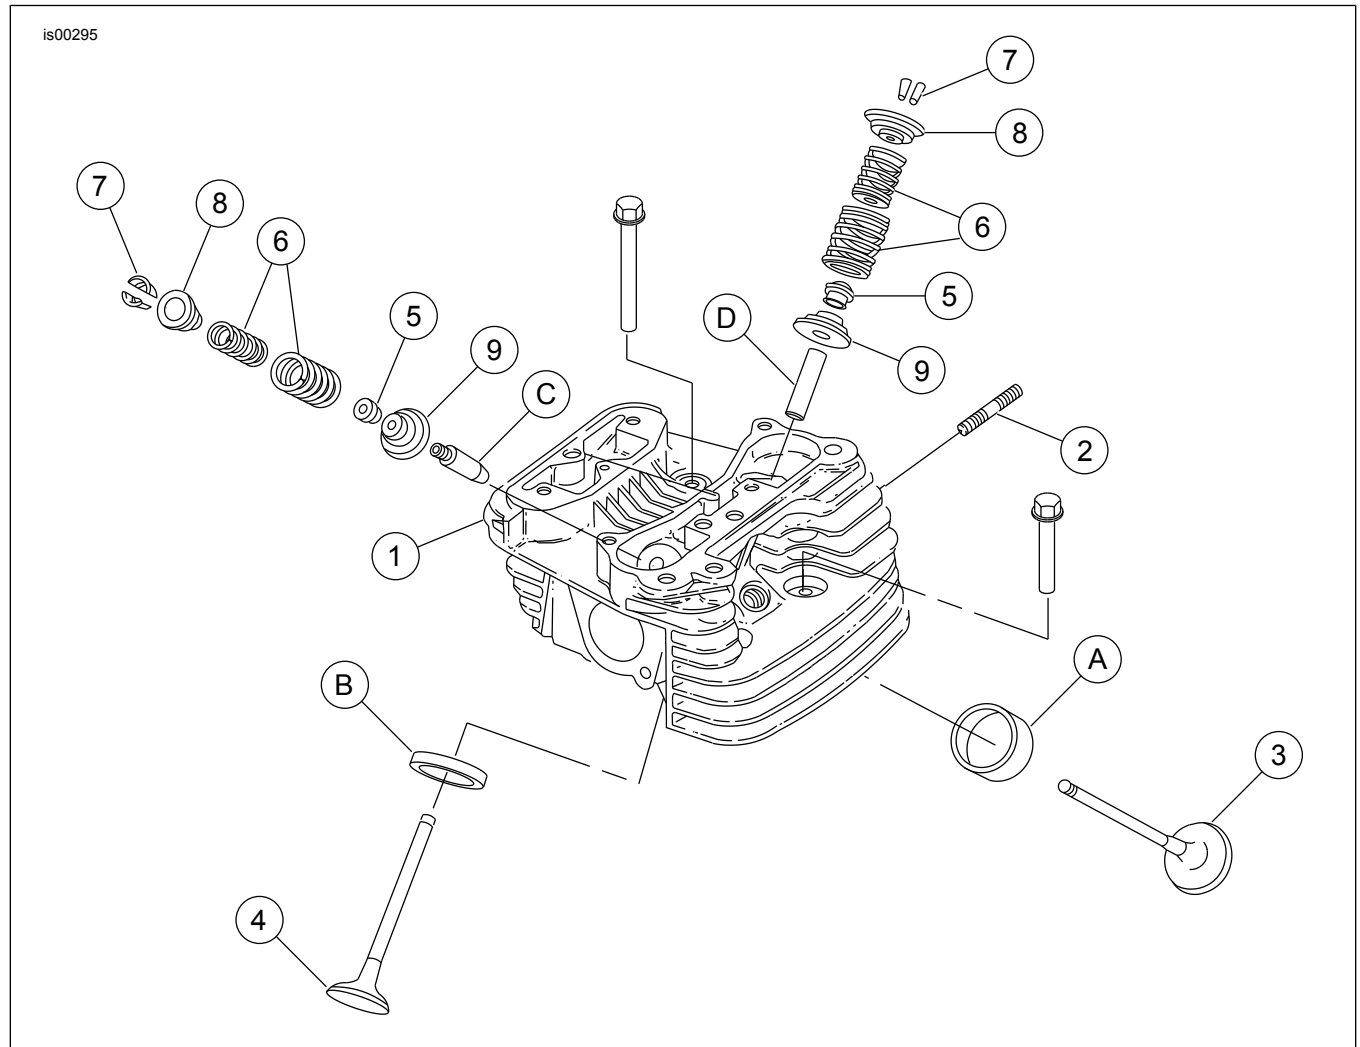

Figure 2. Service Parts: Screamin' Eagle 1340 Cylinder Heads
See Figure 2 and Table 6.
- See Figure 2. Using shims required for desired seat pressure (see notes above), install lower valve spring collars, upper collars, and collar keys. Check installed spring height. Add shims or remove material from spring seat to reach installed spring height. Remove upper collar keys and upper collars and assemble cylinder heads following applicable Service Manual procedures.
See Figure 2 and Table 6. Cylinder heads come with valve seats (A) and (B) and valve guides (C) and (D) installed. Quantities are shown for kits. Only one cylinder assembly is shown.